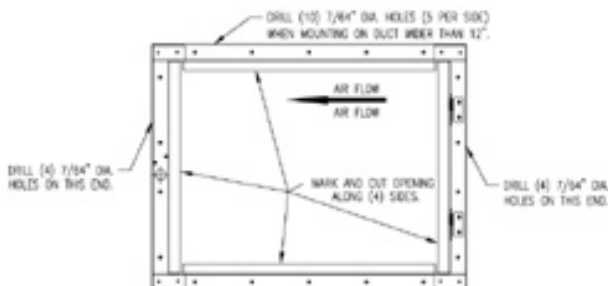

FIGURE 9: Humidifier Frame
1. At the selected location, hold the humidifier mounting frame (see Figure 9 on page 10) on the bottom side of the duct so that the long sides of the frame are parallel to the length of the duct, and the frame's hinged end is toward the heating unit, so that the air flow is in the direction indicated.
4. Using #8 sheet metal screws, attach the mounting frame to the duct, as shown in Figures 9, 10 and 11 (page 10). **Make sure the air flows in the direction indicated.**